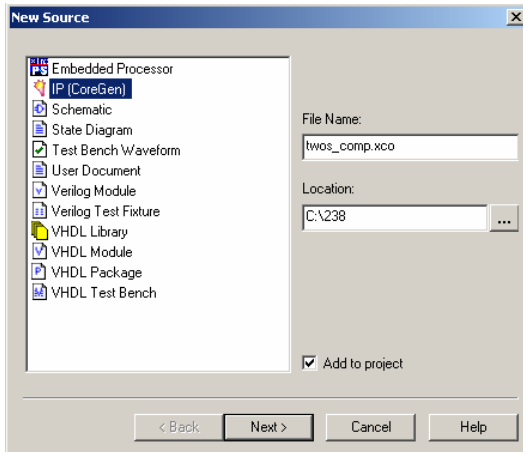

Figure 2: New Source Settings
1. Add new source; Go to **Project** → **New Source**. Name your file **twos\_comp**. On the left hand side, choose **IP (CoreGen)**. Click **Next**. Refer to Figure 2.